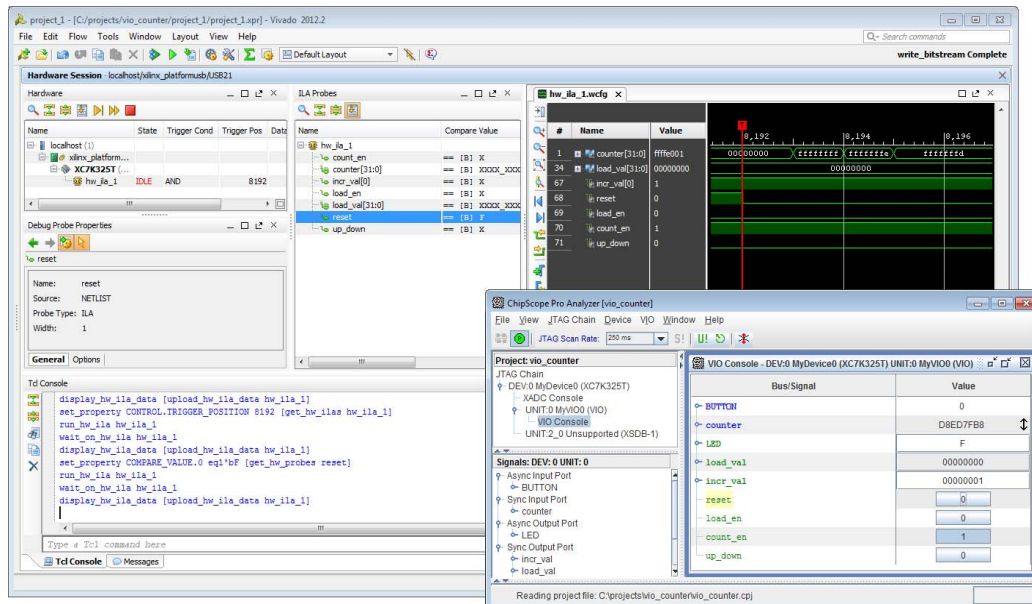

Figure 5-9: Using Vivado Logic Analyzer Feature and ChipScope Pro Analyzer Tool to Debug the Design
- Use each of the run-time analyzer tools to interact with their respective debug cores (see Figure 5-9)